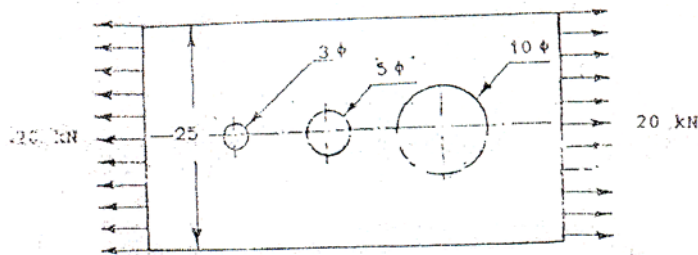
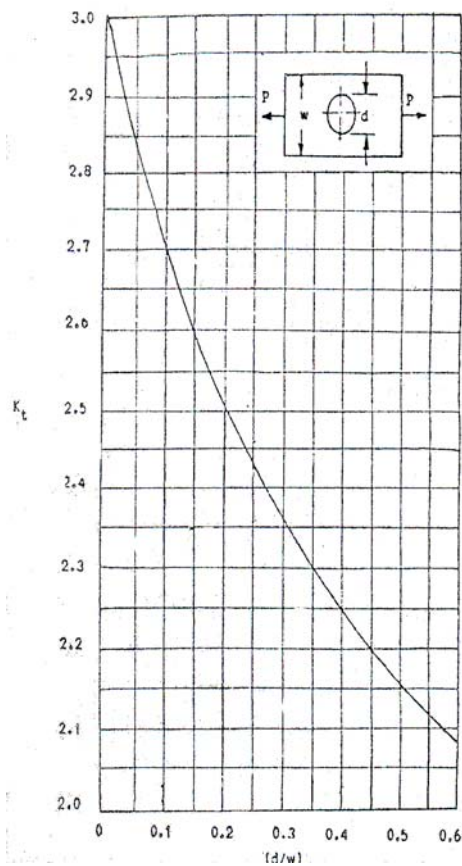

Figure 3
Figure 4
- b) A rectangular plate, 15 mm thick, made of a brittle material as shown in Figure 3. Calculate the stresses at each of the 3 holes of 3, 5 and 10 mm diameter respectively. Refer Figure 4 for related data. 9